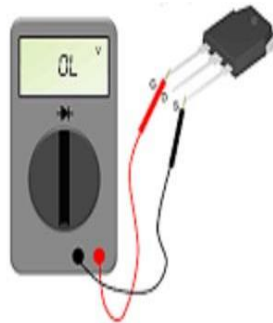

Fig. 1.24 Multimeter showing high resistance value
Step 3 – If the NMOS transistor is functioning correctly, you should see a relatively high resistance reading or an open circuit. This indicates that the channel between the source and drain is off or blocked. Figure 1.24 illustrates the multimeter showing high resistance.